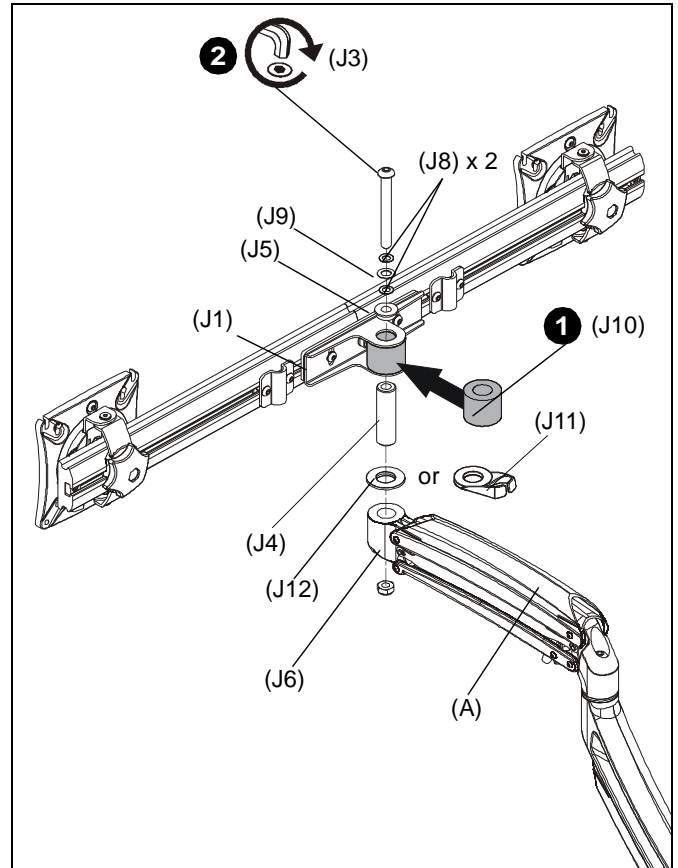

**Figure 6**
5. Place mount on desk over grommet hole. (See Figure 6)
6. Use 5/16-18 x 6" button head cap screw (G), removed washer, clamp bracket (E) and 5/16-18" square nut (F) to secure mount to desk. (See Figure 6)